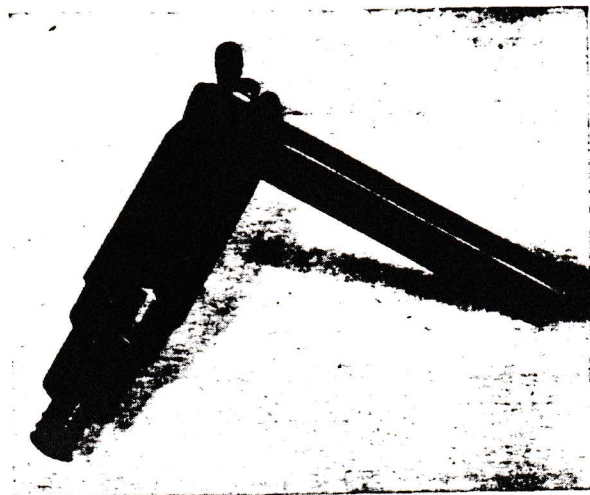

Fig. 64. Tool for removing bushing
1. Press, knock or pull out the worn bushings with the help of a suitable tool. Special tools for the brush holder end shield are shown in Figs. 64 and 65.